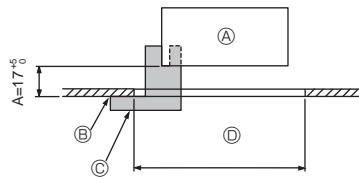
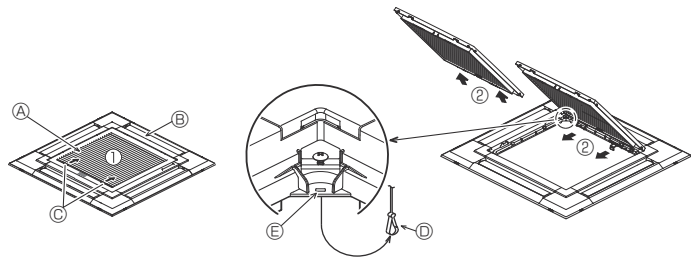
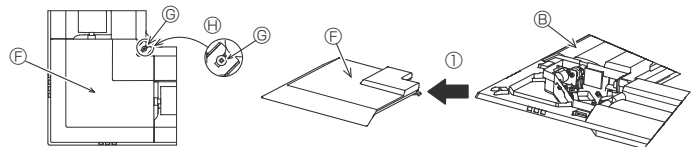

Fig. 9-2
Fig. 9-3
Fig. 9-4
①	Grille	1	950 × 950 (mm)
②	Installation gauge	1	(Divided into 4 parts)
③	Screw (4 × 16)	1	For PLP-6EAE, PLP-6EAE, PLP-6EALME
④	i-see Sensor corner panel	1	For PLP-6EAE, PLP-6EAE, PLP-6EALME
⑤	Wireless remote controller	1	For PLP-6EALM, PLP-6EALME
⑥	Remote controller holder	1	Included when equipped with the wireless remote controller.
⑦	LR6 AA batteries	2	Included when equipped with the wireless remote controller.
⑧	3.5 × 16 tapping screws	2	Included when equipped with the wireless remote controller.
9.2. Preparing to attach the grille (Fig. 9-2)
- With the gauge ② supplied with this kit, adjust and check the positioning of the main unit relative to the ceiling surface. If the main unit is not properly positioned relative to the ceiling surface, it may allow air leaks or cause condensation to collect.
- Ⓒ Installation gauge ② (inserted into the main unit)
9.2.1. Removing the intake grille (Fig. 9-3)
- Slide the levers in the direction indicated by the arrows ① to open the intake grille.
- With the intake grille in the "open" position, remove the hinge of the intake grille from the grille as indicated by the arrows ②.
9.2.2. Removing the corner panel (Fig. 9-4)
- Loose the 4 screws on the corner. Slide the corner panel in the direction of the arrow ① in the figure and remove the corner panel.
[Fig. 9-3] [Fig. 9-4]